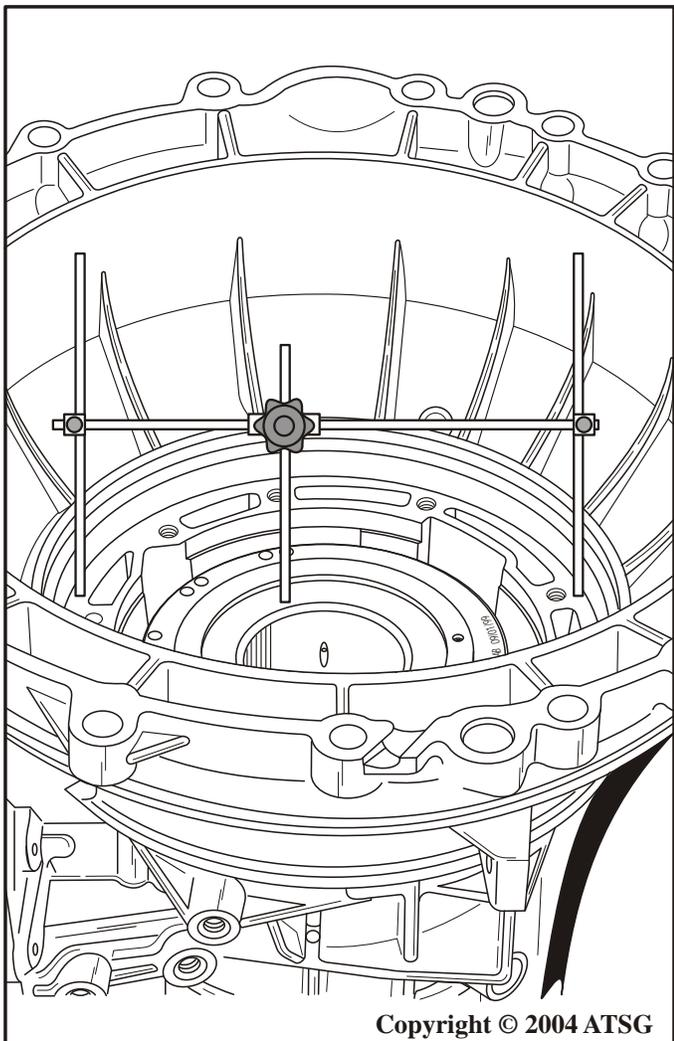

Figure 165
- 49. Install "H" gauge onto case pump surface and move center rod down to surface on the coast clutch where selective thrust washer rides, as shown in Figure 165.